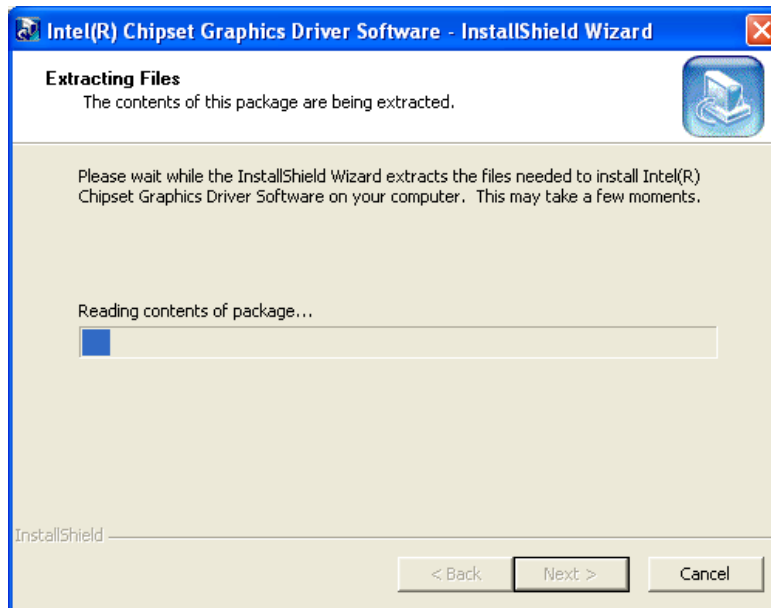

Figure 6-9: Graphics Driver Setup Files Extracted
Step 6: The installation files are extracted. See **Figure 6-9**.